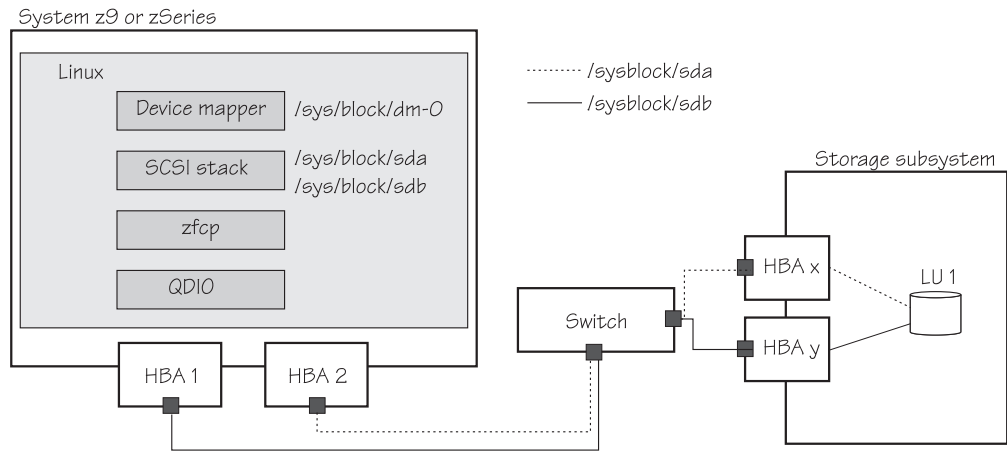

Figure 8. Multipathing with multipath-tools and device mapper
Redundant paths defined in Linux appear as separate SCSI devices, one for each logical path (see Figure 8 on page 16). The device-mapper provides a single block device for each logical unit (LU) and reroutes I/O over the available paths. You can partition the device-mapper multipath I/O (MPIO) devices or use them as physical volumes for LVM or software RAID.
Figure 8 on page 16 shows an example multipath setup with two HBAs each for the mainframe and the storage subsystem.